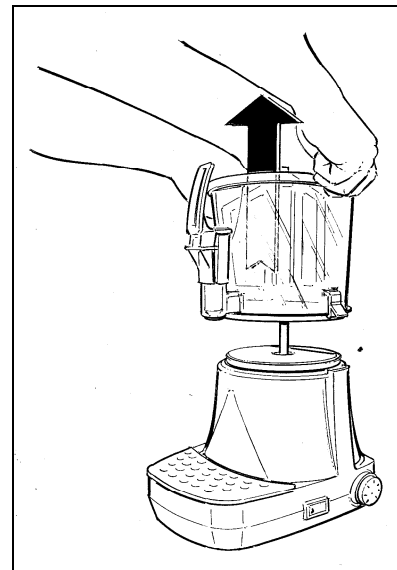
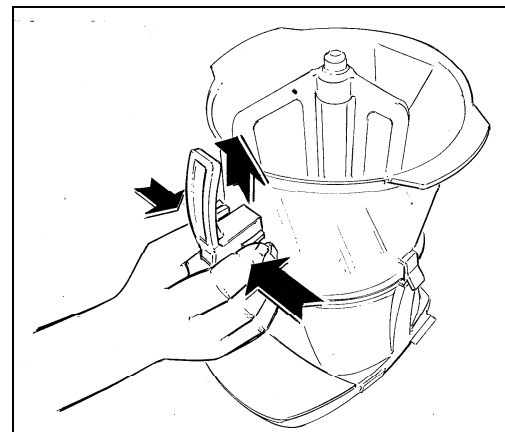

Fig. 8
Fig. 9
- Using two container holders, in order to avoid burns hands, grasp container (A) and lift it upwards. The container and mixer (E) will be automatically released from their seat (see fig. 8).
- Cool the container (A) (by dipping it in cold water, for example).
- Simultaneously press the two securing tabs and lift the tap to extract it from its seat (see fig.9).